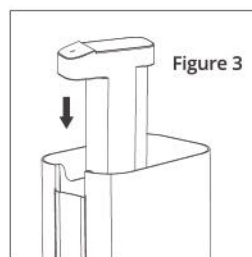

Figure 3
- Put the water pumping unit back into the water tank. (Figure 3)